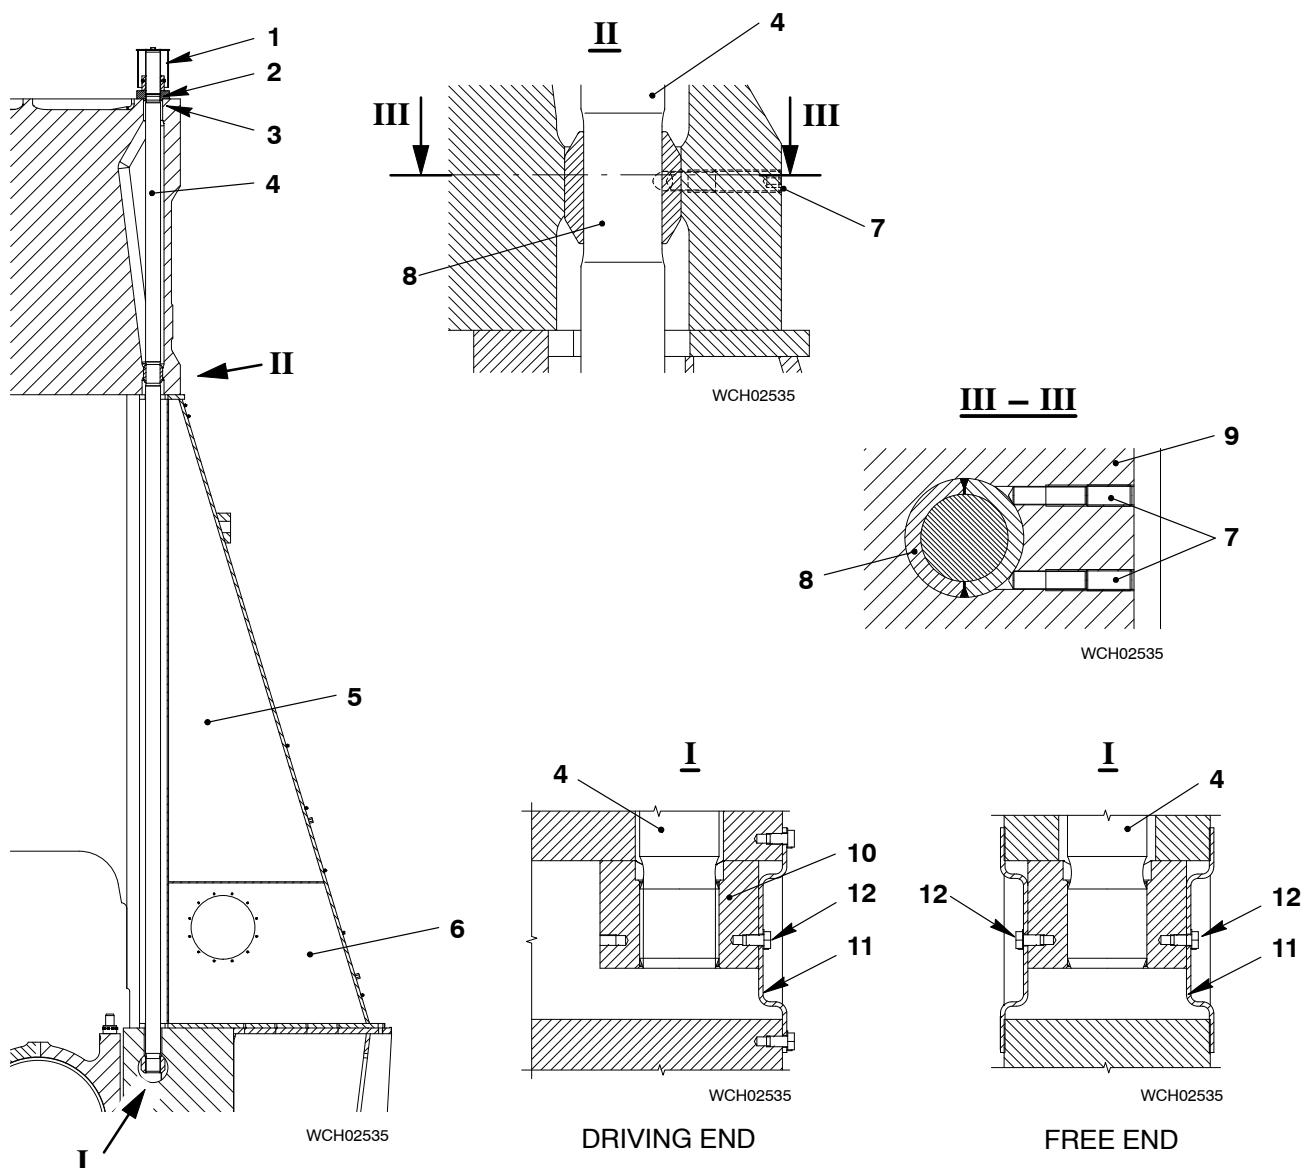

Fig. 2: Tie Rod Assembly
A two-part bush (8) is welded on the tie rod (4, Fig. 2). At the bottom of the cylinder block, two set screws (7) keep the two-part bush in position to prevent vibration of the tie rods.